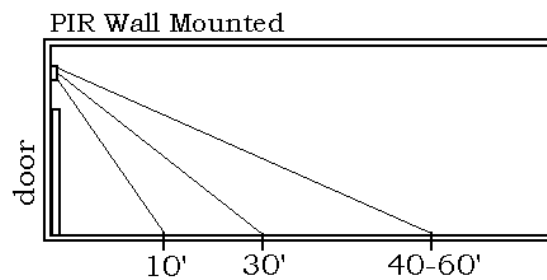

Figure 5.3 Wall-mounted PIR
Wall mounting the PIR may result in detection beyond the desired area (Figure 5.3). If you decide to wall mount the PIR, “mask” the PIR to reduce the range.
1. The PIR has 3 “beams.” The low beam reaches about 10’, the middle beam reaches about 30’, and the high beam can reach 40-60’ (see Figure 5.3). “Masking” a PIR means covering one or more of the beams to reduce the PIR’s range.